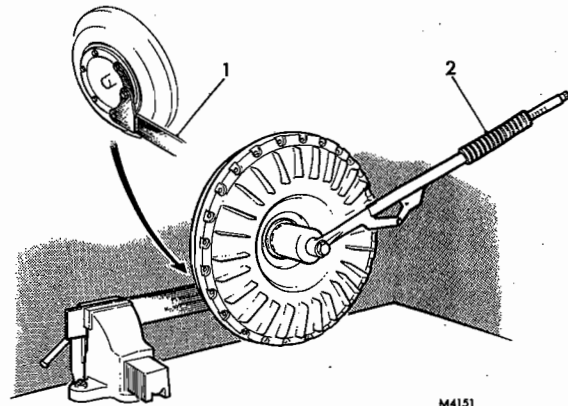

FIG. 4 APPLICATION OF THE SERVICE TOOLS
3. Screw the holding wrench Part LC113A to the input shaft and grip the wrench handle in a vice. Bend back the tab washer and release the ring nut using spanner LC154, Fig. 4.
- Fit the input shaft (3) to the runner, tighten setscrews (15) and lock with tab plates.
- Fit the coupling spigot (2) to the input shaft.
- Position the impeller over the runner and using a suitable tube with a bore big enough to pass over the threads on the coupling shaft, press the bearing (14) onto the shaft.
- Fit the tab (10) and ring nut (9) and using both service tools as described during the dismantling procedure, Fig. 4, tighten the ring nut to correct torque, see Data.
- Fit the pump drive gear (7), to the line previously scribed.